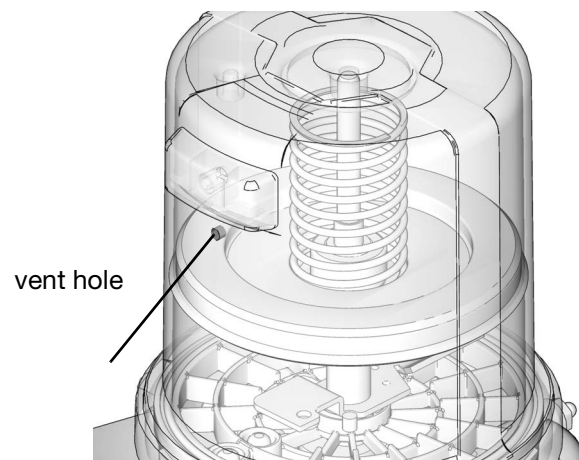

FIG. 16
3. Fill reservoir with grease until seal of follower plate breaches the vent hole (FIG. 16) and the majority of air is expelled from the reservoir.